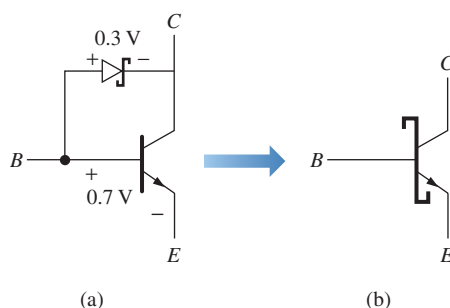

Figure 9–17 Schottky-clamped transistor: (a) Schottky diode reduces stored charges and (b) symbol.
Schottky logic overcomes the saturation and stored charges problem by placing a Schottky diode across the base-to-collector junction, as shown in Figure 9–17. With the Schottky diode in place, any excess charge on the base is passed on to the collector, and the transistor is held just below saturation. The Schottky diode has a special metal junction that minimizes its own capacitive charge and increases its switching speed. Using Schottky-clamped transistors and decreased resistor values, the propagation delay is reduced by a factor of 4, and power consumption is only doubled. Therefore, the speed–power product of the 74SXX TTL series is improved to approximately half that of the 74XX TTL series (the lower, the better).
Low-Power Schottky (LS): (See Figure 9–8 for the 7400/74LS00 data sheet.) By using different integration techniques and increasing the values of the internal resistors, the power dissipation of the Schottky TTL is reduced significantly. The speed–power product of the 74LSXX TTL series is approximately one-third that of the 74SXX series and one-fifth that of the 74XX series.